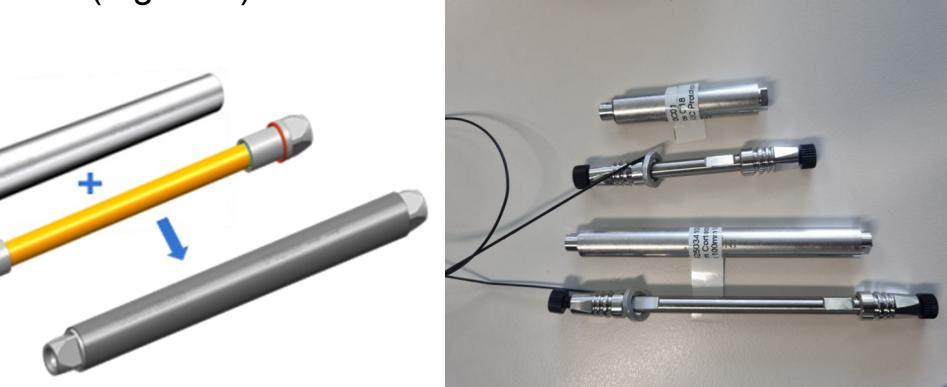

Figure 3. The vacuum jacket is placed around a traditional column.
2. The vacuum jacket mitigates frictional heating and temperature differentials (Figure 3).